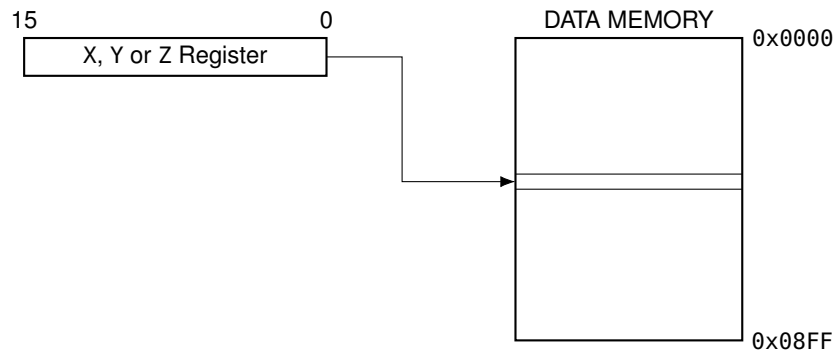

Figure 7.7: Data indirect addressing occurs when an operand address is the contents of an indirect addressing pointer register.
**Data indirect** addressing occurs when the operand address is the contents of the X, Y or Z pointer register. This mode, shown schematically in Figure 7.7, is used to access extended I/O registers or the